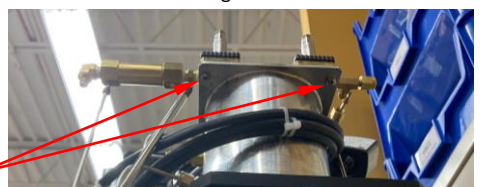

Figure 5
- c. Remove the two screws on the bottom of the condenser's top plate using a Phillips head screwdriver. Set aside the screws for later use. See Figure 5.